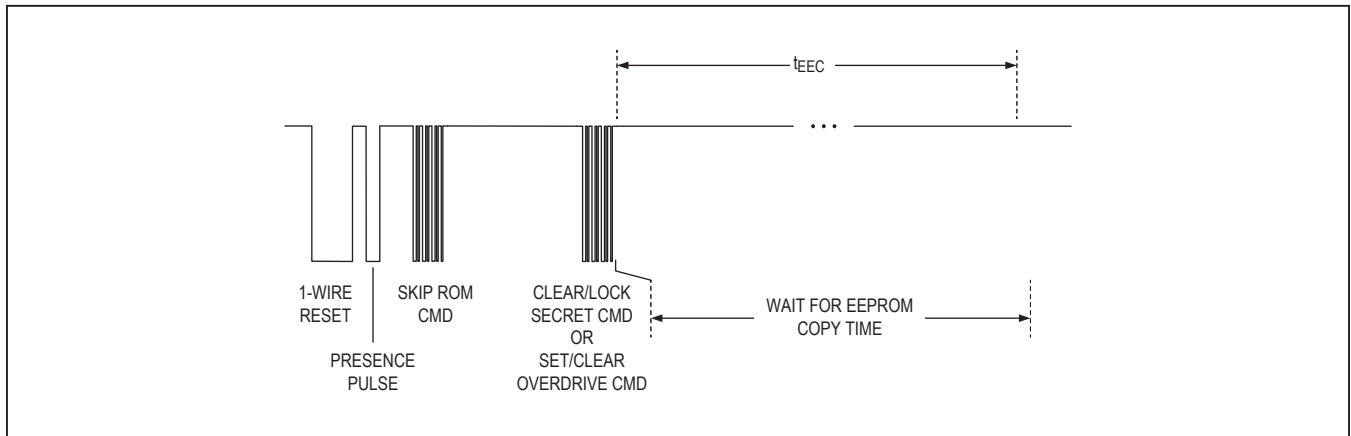

Figure 13. Clear/Lock Secret, Set/Clear Overdrive Function Commands
**Clear Secret [5Ah].** This command sets the 64-bit secret to all 0s (0000 0000 0000 0000h). The host must wait  $t_{EEC}$  for the DS2784 to write the new secret value to EEPROM. See Figure 13 for command timing.
**Lock Secret [60h].** This command write protects the 64-bit secret to prevent accidental or malicious overwrite of the secret value. The secret value stored in EEPROM becomes “final”. The host must wait  $t_{EEC}$  for the DS2784 to write the lock secret bit to EEPROM. See Figure 13 for command timing.